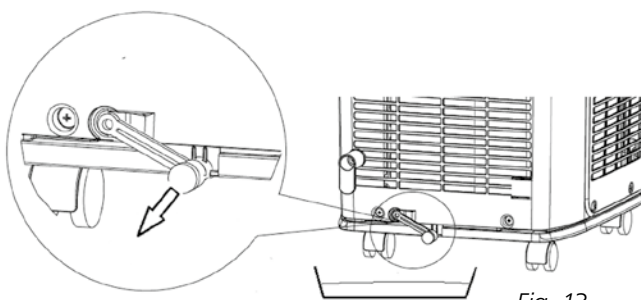

Fig. 13
- 4 Remove the rubber plug from the drain tube and let the water run out. (± 0.5 litres). See fig. 13.